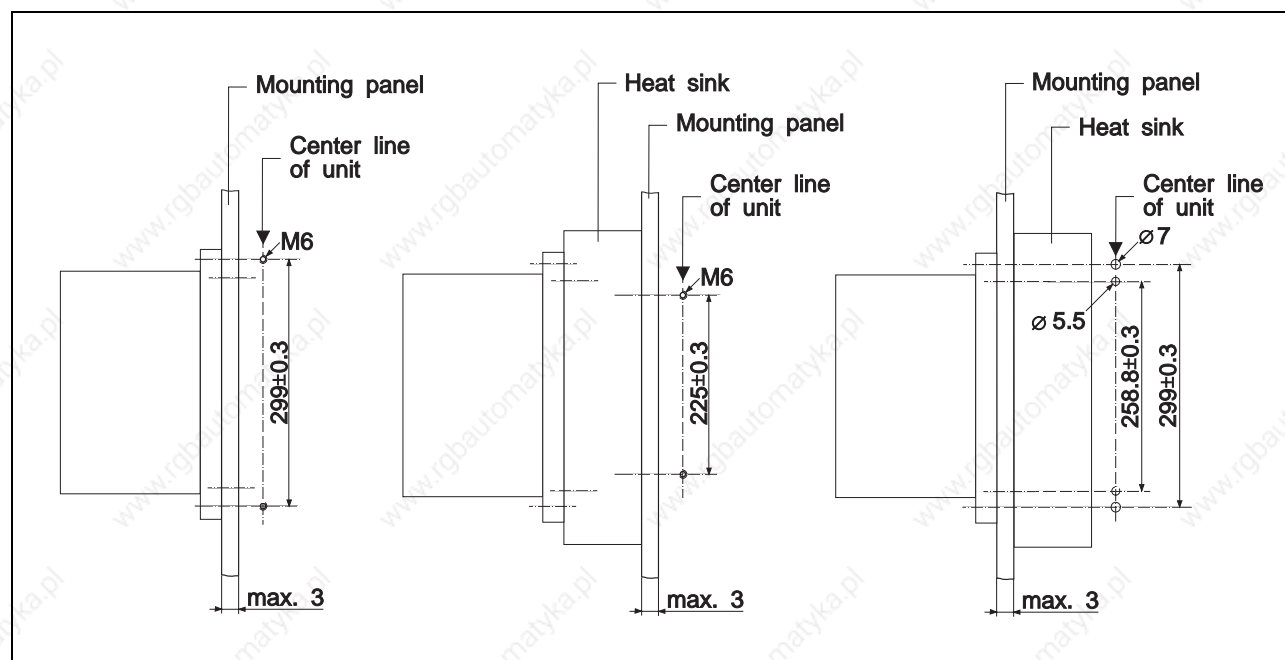

Figure 6-6 Drilling Schemes
2. Drill two holes into the mounting wall and tap a thread M6 (see figure 6-6).
2. Drill four holes into the mounting wall (see figure 6-6).